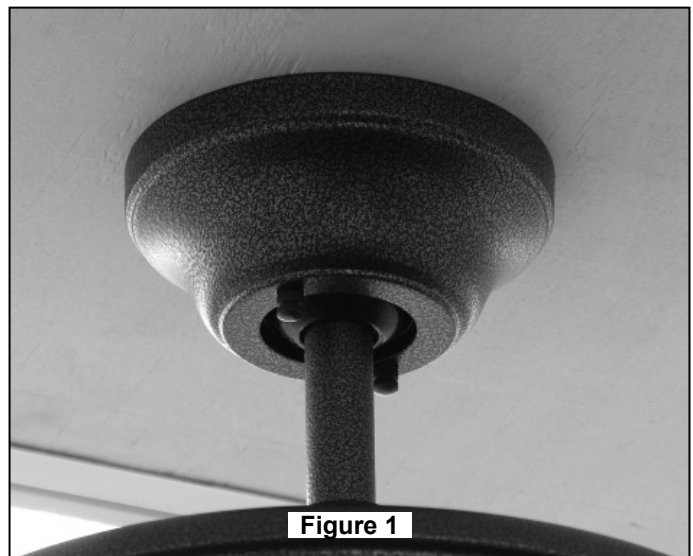

Figure 1
1. Screw in two threaded rods into the Hanger Bracket (Figure 1).
2. Securely attach the Canopy Housing to the Hanger Bracket using the external lockwashers and knurled knobs supplied with your fan (Figure 1).
3. With a Phillips screwdriver, tighten screws with flat washers to secure the blade. (Figure 1)